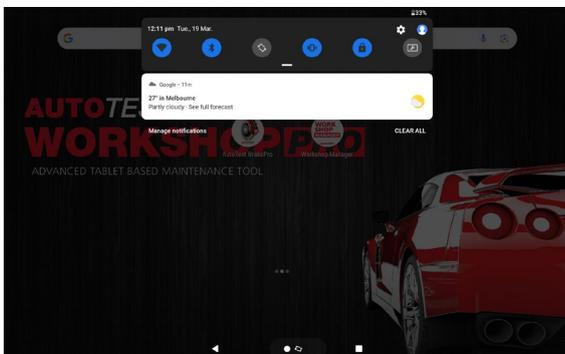

Figure 42
1. Swipe down from the top of the screen to show a quick view of settings. (Figure 42)